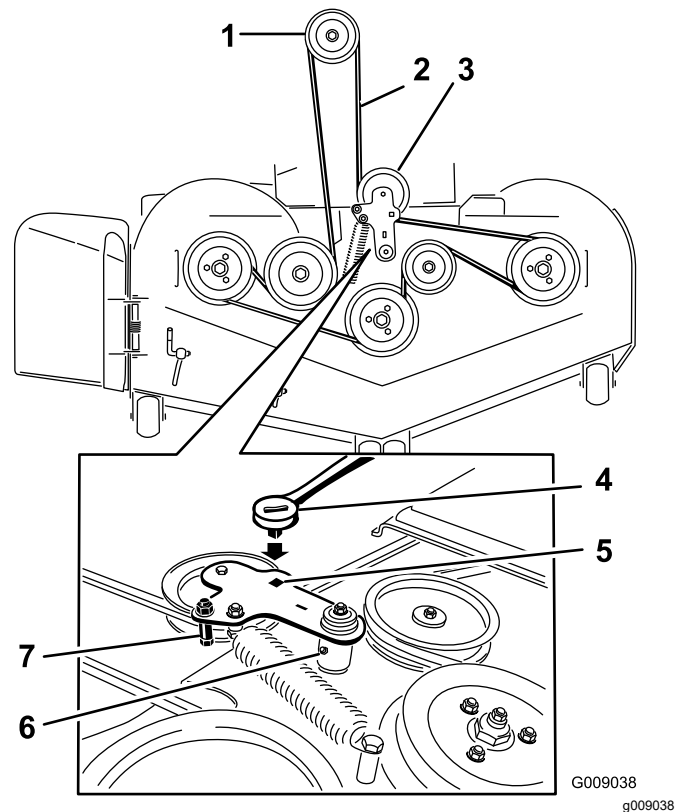

Figure 109
5. Remove the floor pan and insert a ratchet into the square hole in the deck idler (Figure 109).
6. Rotate the deck idler clockwise and remove the mower belt (Figure 109).